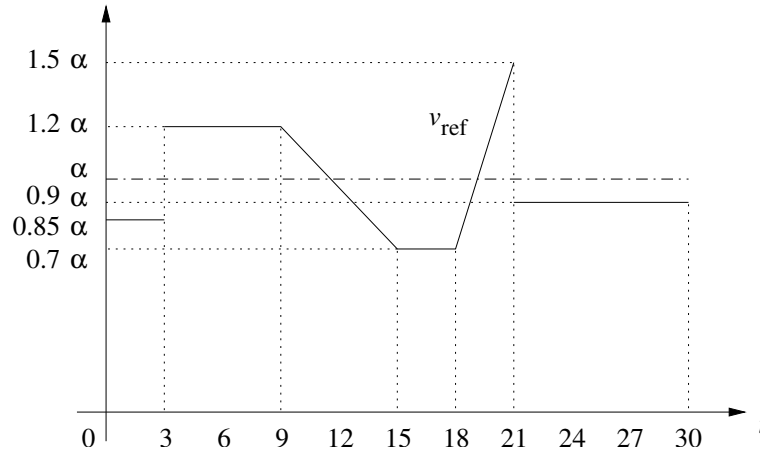

Figure 3: The reference speed signal to be used.
**Step 2.9:** Assume  $\lambda = 0.1$  (in general, an appropriate value of  $\lambda$  is determined by taking into account the nominal values of  $J_{\text{track}}$  and  $J_{\text{input}}$  and by some tuning and iteration). Consider two combinations of  $N_p$  and  $N_c$ : first the combination  $(N_{p,1}, N_{c,1}) = (5, 4)$  which is the same for all groups, and another combination  $(N_{p,2}, N_{c,2})$  that you may select yourself with  $N_{p,i} \in \{7, 8, 9, 10\}$  and  $1 < N_{c,i} < N_{p,i}$ . For each combination run your program for the time interval  $[0, T_{\text{end}}]$  with  $T_{\text{end}} = 25$ , for  $v(0) = 0.925\alpha$  where  $\alpha$  is the value found in Step 2.2, and for the speed reference signal  $v_{\text{ref}}$  which defined as follows (see also Figure 3):